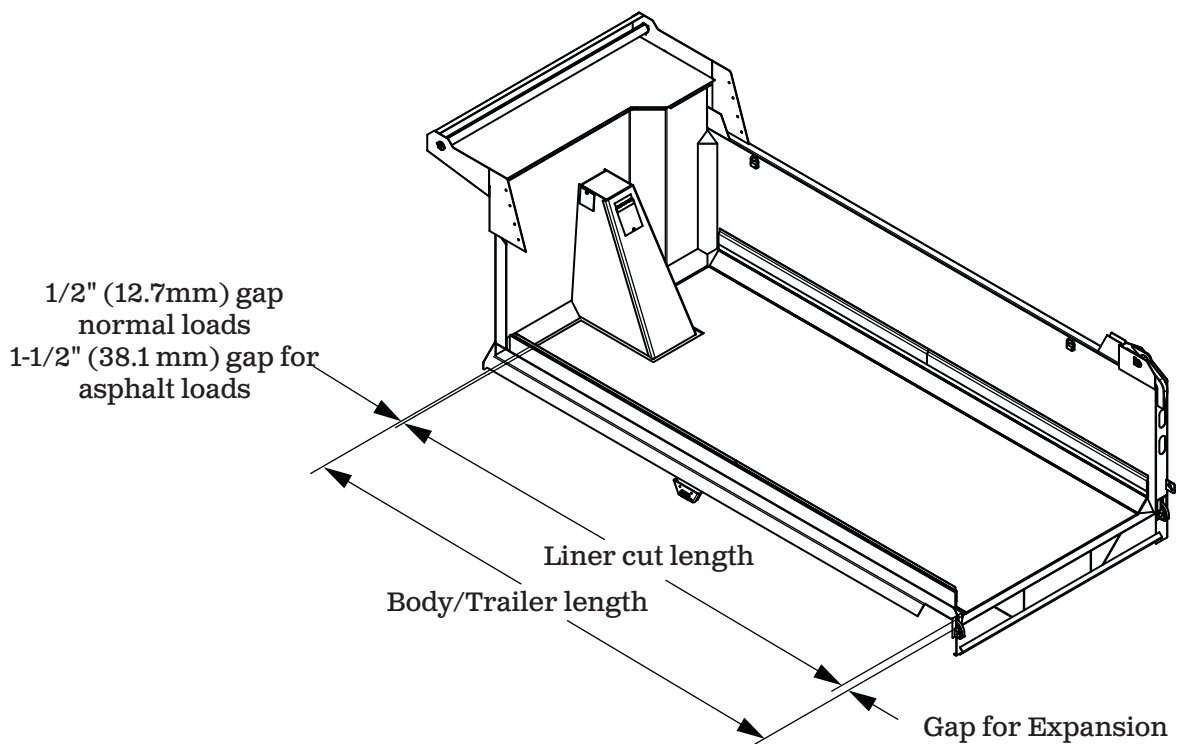

Figure 1
1) See **Figure 1**. Measure inside length of trailer/body.